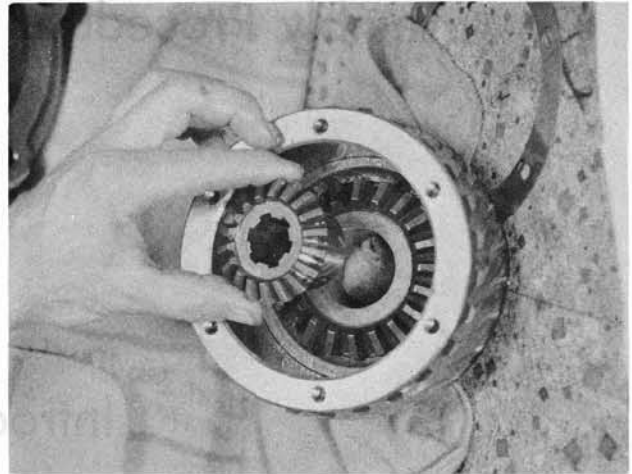

Figure 23
5. Now place the Differential Gear (6709) in the center of the Pinned Gear (6703) as shown in Figure 23.